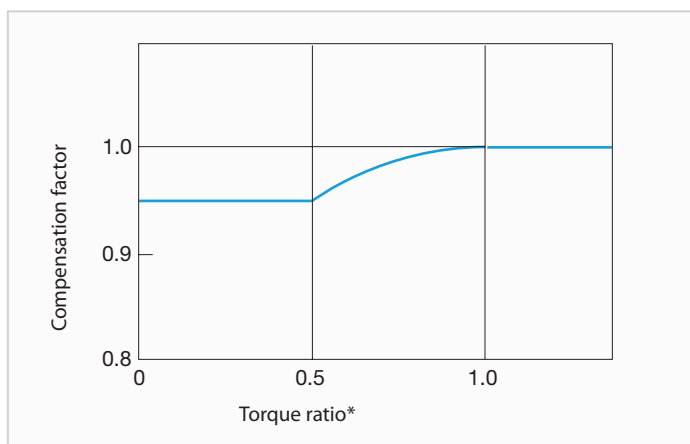

Fig. UA3 Compensation curve for efficiency
1. The efficiency changes if the load torque does not match the nominal torque. Check the compensation factor in the diagram Fig. UA3.
2. When the torque ratio is over 1.0, the compensation factor for efficiency is 1.0 (diagram Fig. UA3).